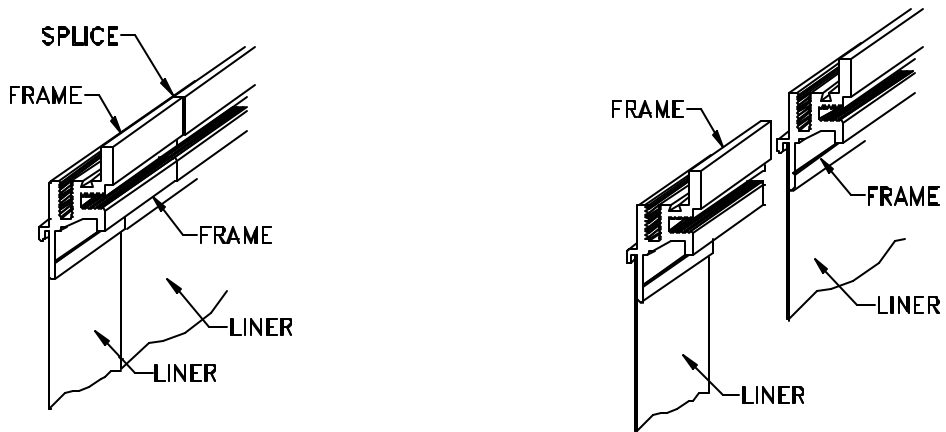

Figure 20
- STEP 2.** Place a mating section of the frame into its assembled position relative to the frame section already put into place (see Figure 20).
- STEP 3.** Abut the mating sections of the frame together as tightly as possible (see Figure 20). Ensure that the system is level, even, the proper width, flush with the finished floor, and properly aligned.